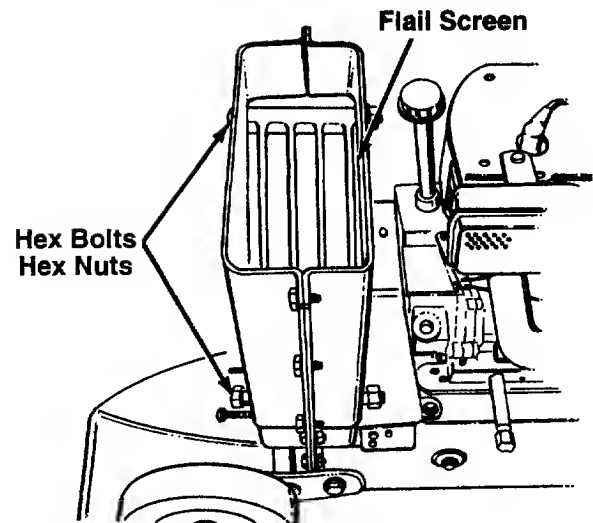

FIGURE 11.
4. Remove the two hex bolts and hex nuts which extend through the housing. Lift the flail screen from inside the housing. See figure 11.
NOTE: Be certain to reassemble the flail screen with the curved side down as shown in figure 11.
11. Remove the two hex bolts and hex lock nuts which extend through the housing. Lift the flail screen out of the housing. See figure 11.